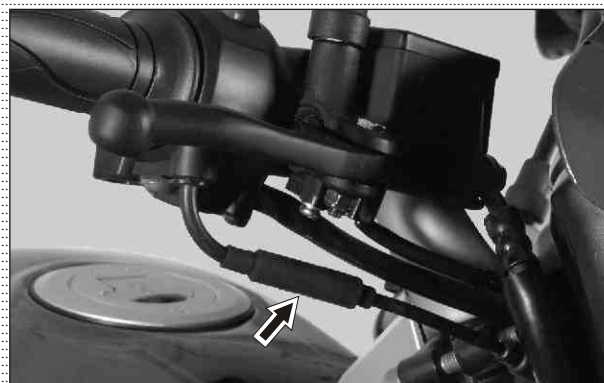

Fig. 2.14
- Check throttle free play, and set the play if required. (Fig. 2.14) (Refer page no 2-22 for throttle free play adjustment procedure.)